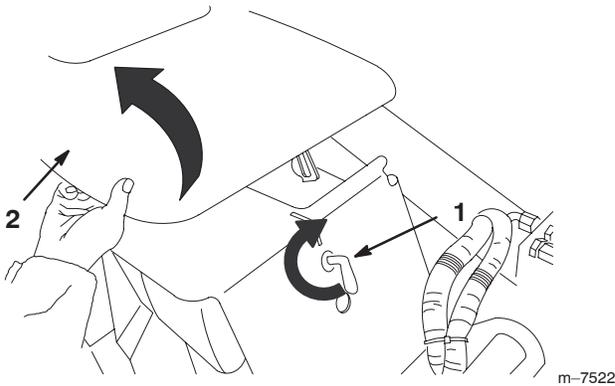

Figure 30
1. Turn the hood latch clockwise and swing the hood up (Fig. 30).